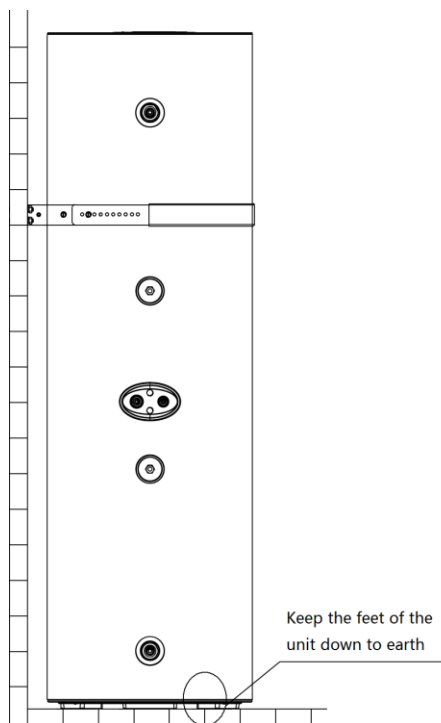

Figure 6-1 Fastness of the water tank
- (1) The water tank can be installed outdoors with the main unit, for example, installed in the balcony, roof, or ground. It can also be installed inside the room. Try to install it in an environment where the temperature is higher than 0°C. The hot water outlet should not be too far away from the locations for use. Lay out the pipes in a centralized manner, and take thermal insulation measures on hot water piping to reduce heat loss.
- (2) The water tank must be placed upright with all feet touching the ground. It must be installed on a solid foundation. During water tank installation, consider the weight bearing capability of the foundation. Figure 6-1 shows the installation diagram.